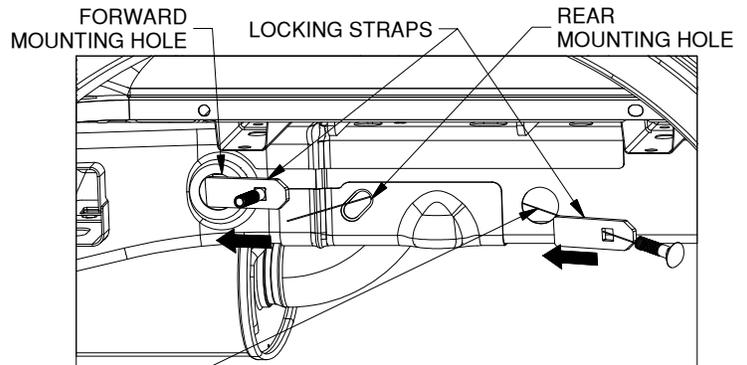
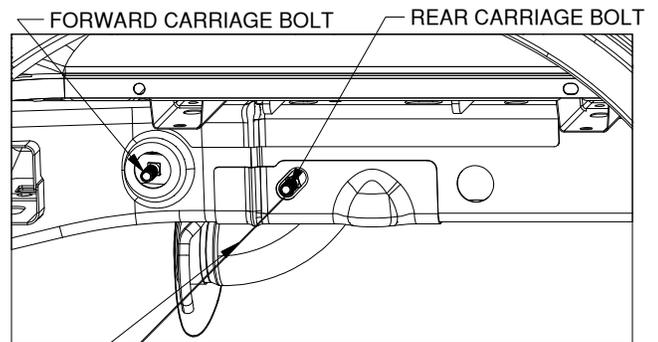
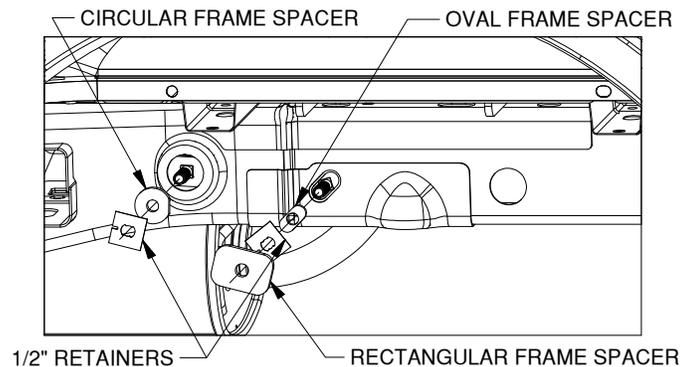

Figure C1: View of driver side wheel well.
Figure C2: View of driver side wheel well.
Figure C3: View of driver side wheel well.
- Install forward carriage bolt.** Each carriage bolt is held in the frame with a locking strap, frame spacer and 1/2" retainer. Locate the forward mounting hole shown in Figure C1. Attach the carriage bolt to the locking strap by passing the bolt through the strap. Insert the locking strap through the mounting hole, until it is completely inside the frame and only the carriage bolt is passing through the hole, see Figure C2. Install a circular frame spacer onto the bolt, see Figure C3. To prevent the bolt from falling into the frame, thread a retainer onto bolt until it is snug.
- Install rear carriage bolt.** Locate the rear mounting hole shown in Figure C1. Use a fish wire to thread the rear carriage bolt and locking strap into the mounting hole, see Figures C1 & C2. Install an oval frame spacer onto the carriage bolt, see Figure C3. Thread a retainer onto the bolt until it is snug against the frame. Place a rectangular frame spacer on the rear carriage bolt. Repeat Steps 1 & 2 on the other side of the truck.